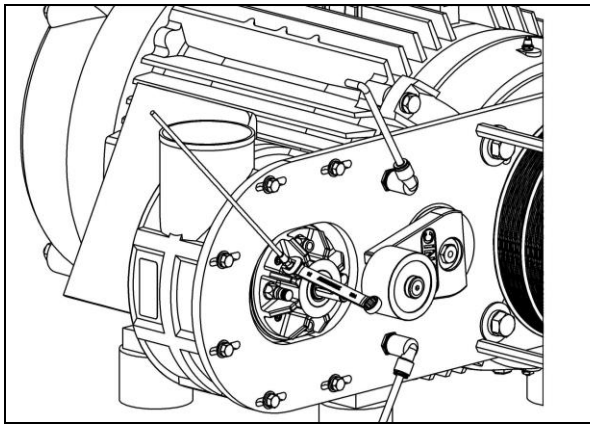

Figure 39 - Remove Thermocouple
8. Remove thermocouple using a 1/2 inch open end wrench. (See Figure 39)